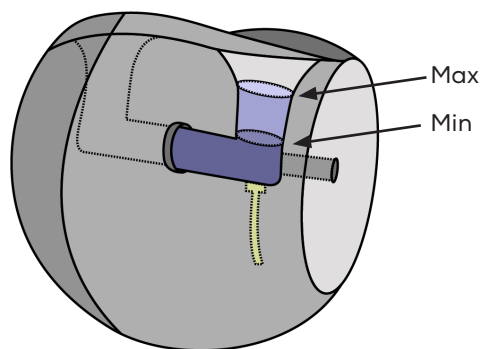

Figure 10. Minimum and maximum fill levels.
5. Check that the fluid level covers the electrode but does not extend into the funnel at the top of the sample or buffer chamber (Figure 10). If any droplets are present on the funnel sides, blot them away with a lint-free tissue.